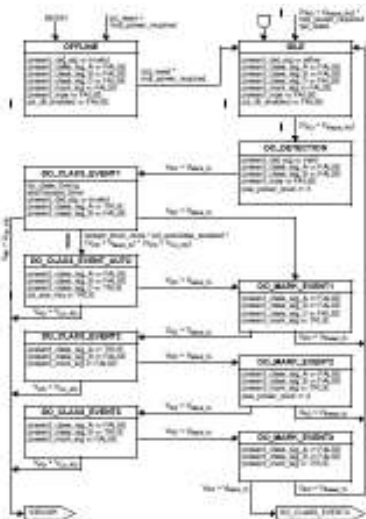

Figure 145-26—Type 3 and Type 4 single-signature PD state diagram
-Editor to fix Figure 145-26, 145-27 and 145-28 numbering in order to make the single-signature PD two parts state machine with single number and update the references to it accordingly.
The PD state diagram specifies the externally observable behavior of a PD. Single-signature Type 3 and Type 4 PDs shall provide the behavior of the state diagram show in Figure 145-26.